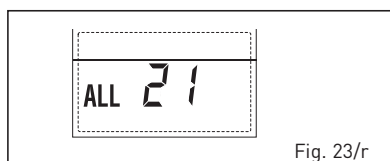

Fig. 23/r
- SOLAR PROBE ERROR STORAGE TANK (S2) "ALL 25" (fig. 23/19)